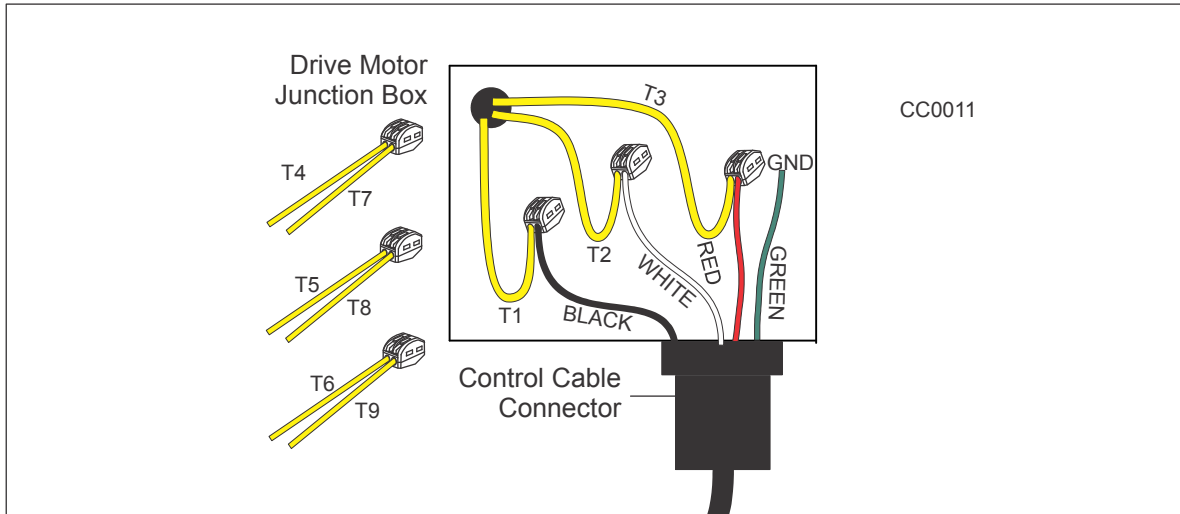

FIG. 3-4
See Figure 3-4.
5. Connect the control cable's black wire to T1, the white wire to T2, and the red wire to T3 on the motor. (See fig. 3-4 .)